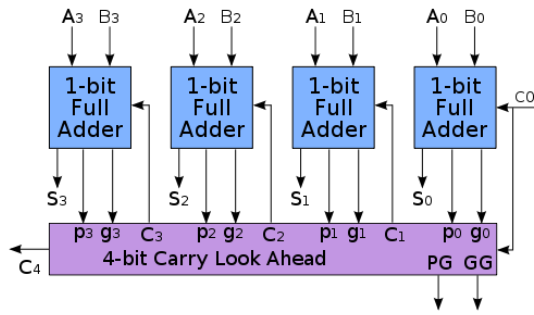

Figure 3. 4-bit CLA
1) Design a 16-bit Carry Look-ahead Adder (CLA). You may start from 4-bit CLA with four full adders (FA) and a 4-bit Look-ahead Carry Unit (LCU). The LCU is used to take the propagate (**p**) and generate (**g**) signal from FAs and generates the carry signal c4 and group propagate (**PG**) and group generate (**GG**). A sample diagram of 4-bit CLA is shown in figure 3.